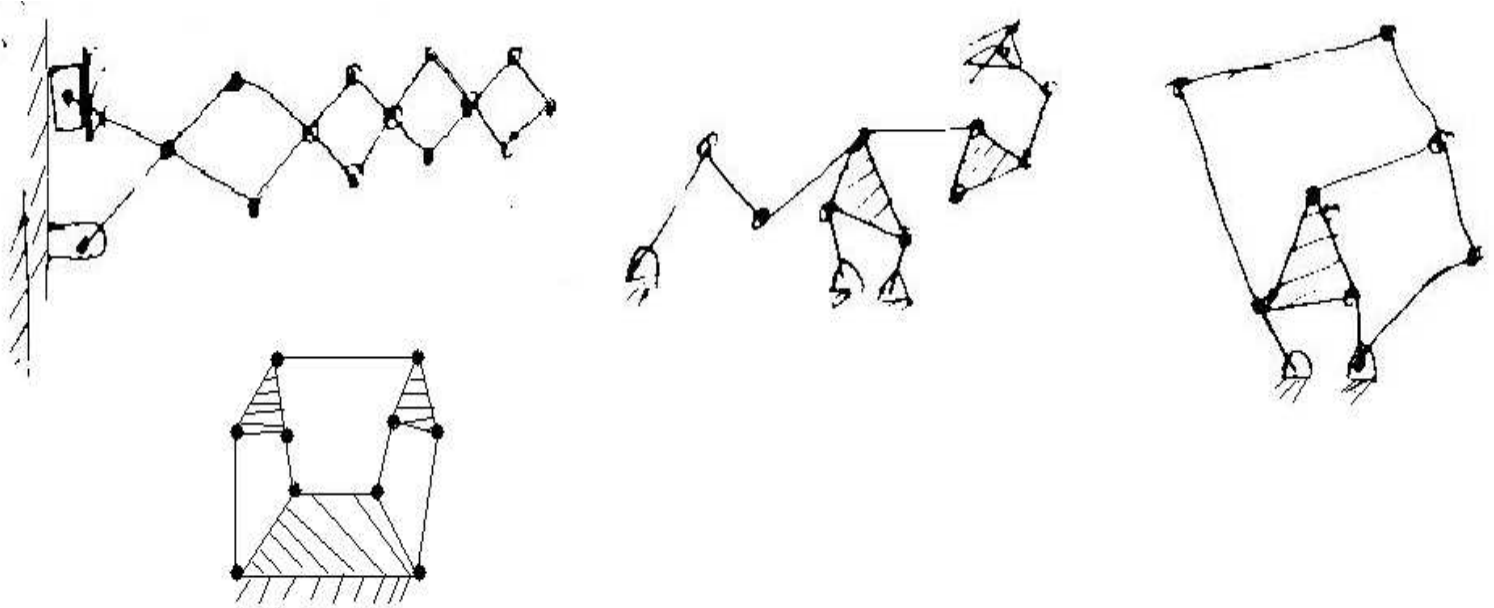

Figure 1:
1. Find the mobility of the selected mechanisms. shown in figure 1